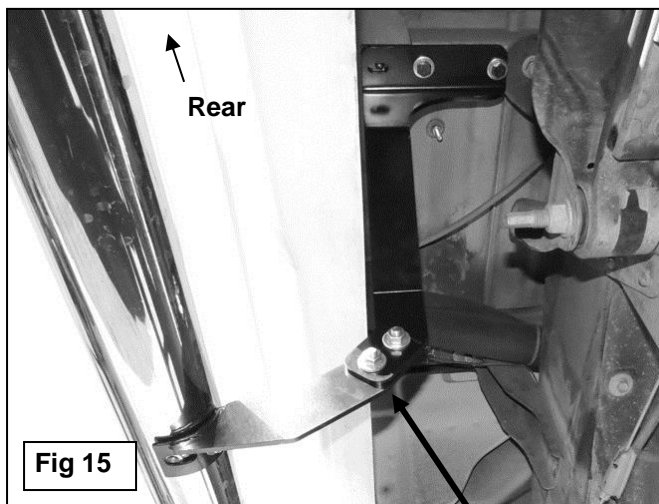

Fig 15
8. Select the passenger side Rear Tube Bracket, (**Figure 14A**). Bolt the Tube Bracket to the front of the Mounting Bracket with (2) 10mm x 30mm Hex Bolts, (4) 10mm Flat Washers, (2) 10mm Lock Washers and (2) 10mm Hex Nuts, (**Figure 15**). Leave hardware loose at this time.